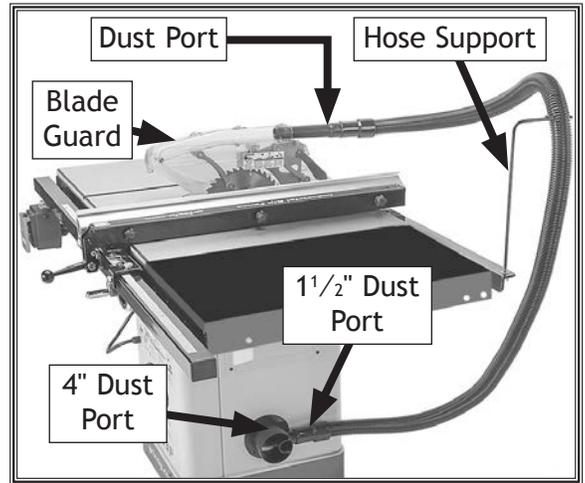

Figure 37. Dust hose attached to saw, hose support, and blade guard dust port.
2. Slide one adapter onto 1 1/2" dust port (see Figure 37), until it fits snugly.
3. Attach dust hose to dust hose support, then insert dust port into rear of blade guard assembly (see Figure 37).